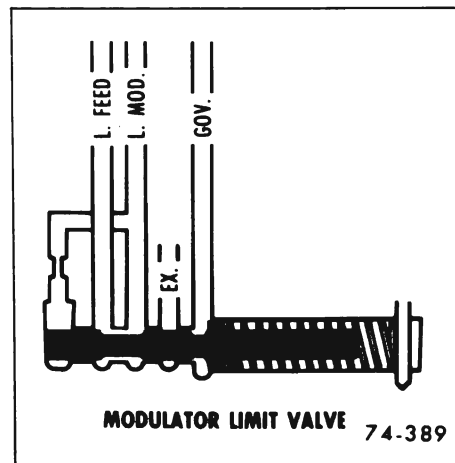

Figure 74-17 - Modulator Limit Valve
i. Modulator Limit Valve (See Figure 74-17)